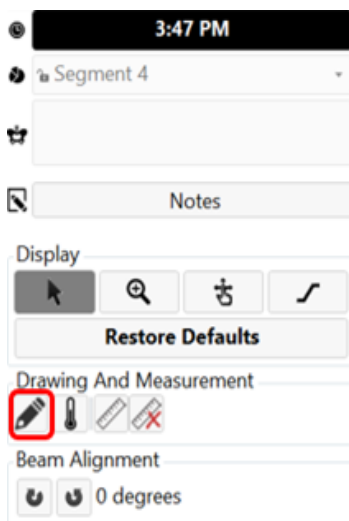

Figure 56: Prostate-boundary 'Drawing' tool on Delivery screen
2. Once delivery is paused, expand the right panel in the Delivery workspace to select the prostate boundary drawing tool (*Figure 56*).